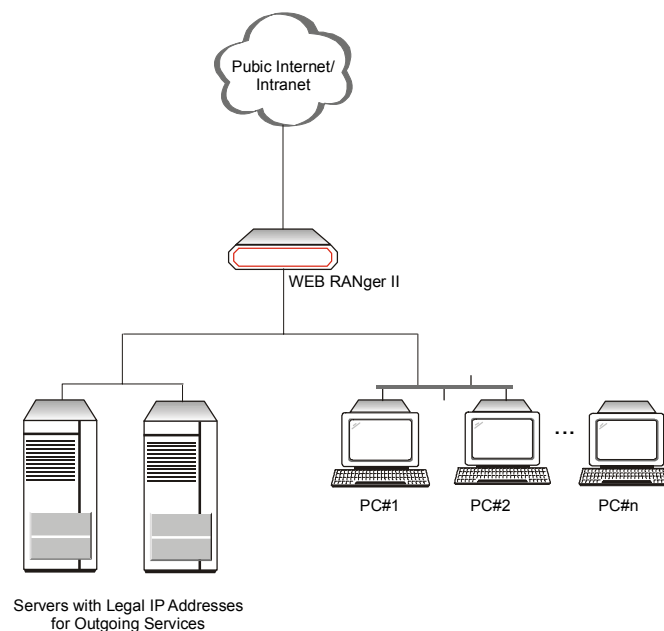

Figure 4-20. IP Address Transparent
- **Transparent** – address translation is not performed for a specified range of IP Addresses. This setup may be used for the application shown in Figure 4-20.